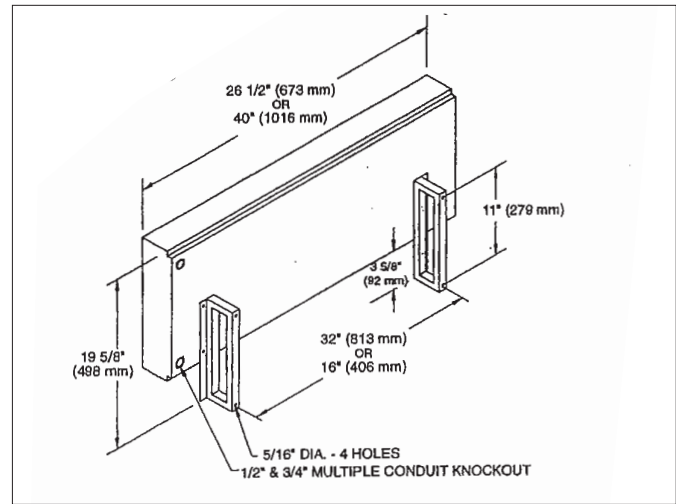
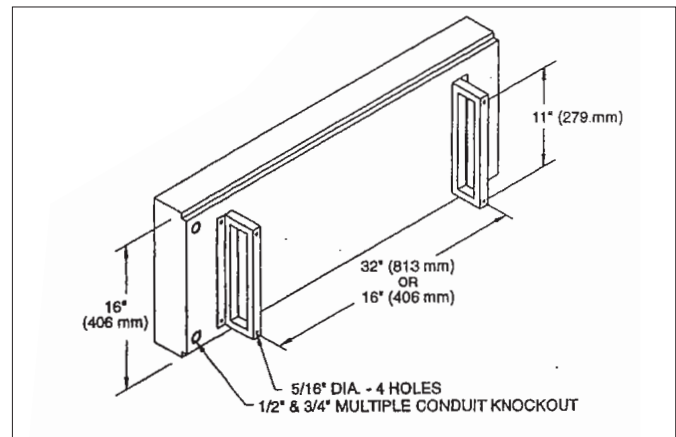

Figure 1 – Floor Mount
Figure 2 – Wall Mount
4. See Figure 1 – Floor Mount or Figure 2 – Wall Mount, page 3 for bracket mounting details.